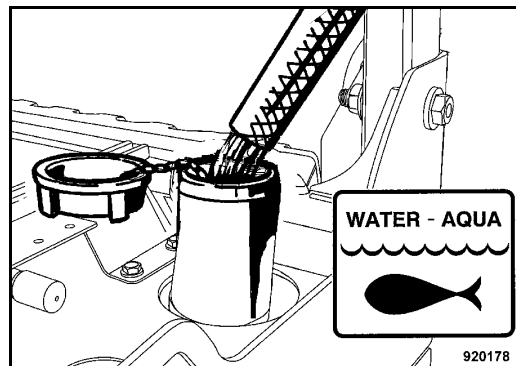

Fig. 127
- Open the cap (Fig. 127) and check the water level.